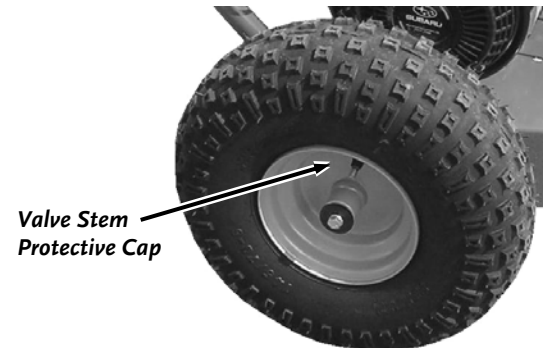

Figure 34
1. Remove the Valve Stem Protective Cap (**Figure 34**) and check the tire pressure with a Tire Pressure Gauge.